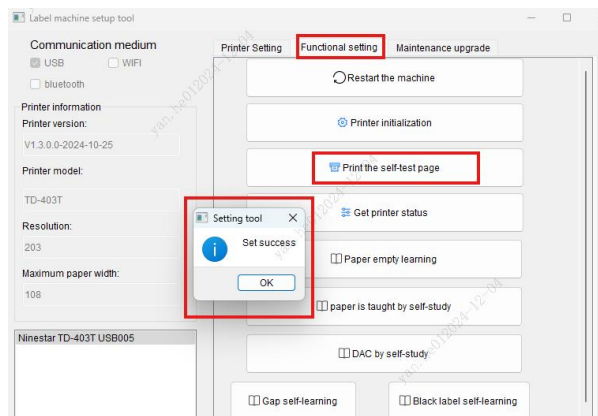

Fig.51
(3)Print a self-test page: Select the "Functional setting" section and click "Print Self-Test Page" and a "Set success" prompt box will appear (shown in Fig.51).